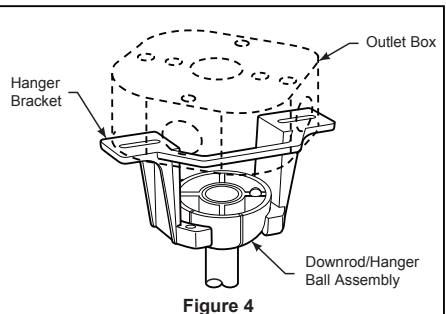

Figure 4
- 4. Thread downrod into the downrod support on top of the motor. Install the clevis pin by aligning the holes in the downrod support with holes in the downrod. Secure clevis pin with hairpin clip. Tighten the two set screws with locking nuts in the downrod support. (Figure 4)
2. Carefully lift the fan and seat the downrod/hanger ball assembly onto the hanger bracket that was just attached to the outlet box. Be sure the groove in the ball is lined up with tab on the hanger bracket. (Figure 4) This fan is intended for standard and angled mounting options only. Closemount and flushmount options are not available. For angled ceilings, note the angle can be no more than 19°.